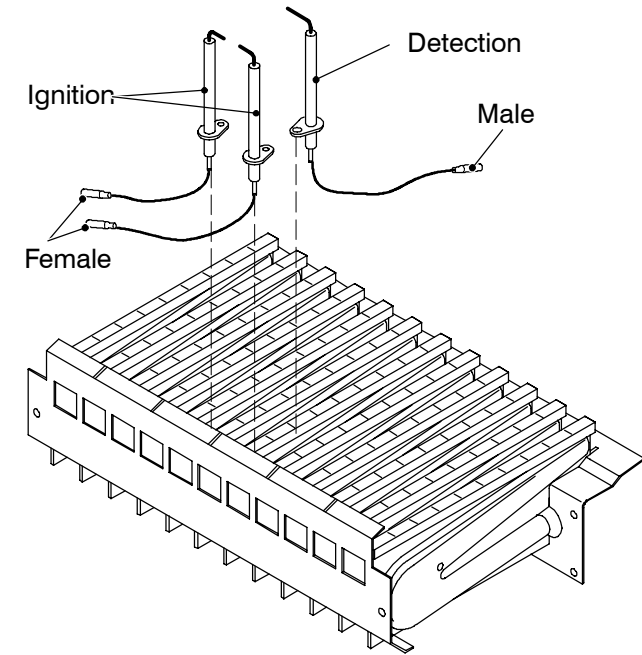

Fig. 75
- 7 Assemble the electrodes carrying out the removal operation in reverse order. Refer to Fig. 75 in order to recognise the electrodes and to correctly connect the wiring.